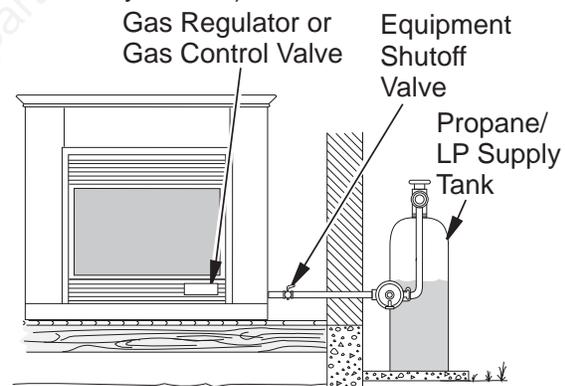

Figure 17 - Checking Gas Joints (Propane/LP Only)
propane/LP supply to equipment shutoff valve for propane/LP (see **Figures 17 or 18**). Apply noncorrosive leak detection fluid to all joints. Bubbles forming show a leak.
4. Check all joints from equipment shutoff valve to gas regulator (Thermostat-Controlled Models) or to gas control valve (Remote-Ready Models) (see **Figures 17 or 18**). Apply noncorrosive leak detection fluid to all joints. Bubbles forming show a leak.